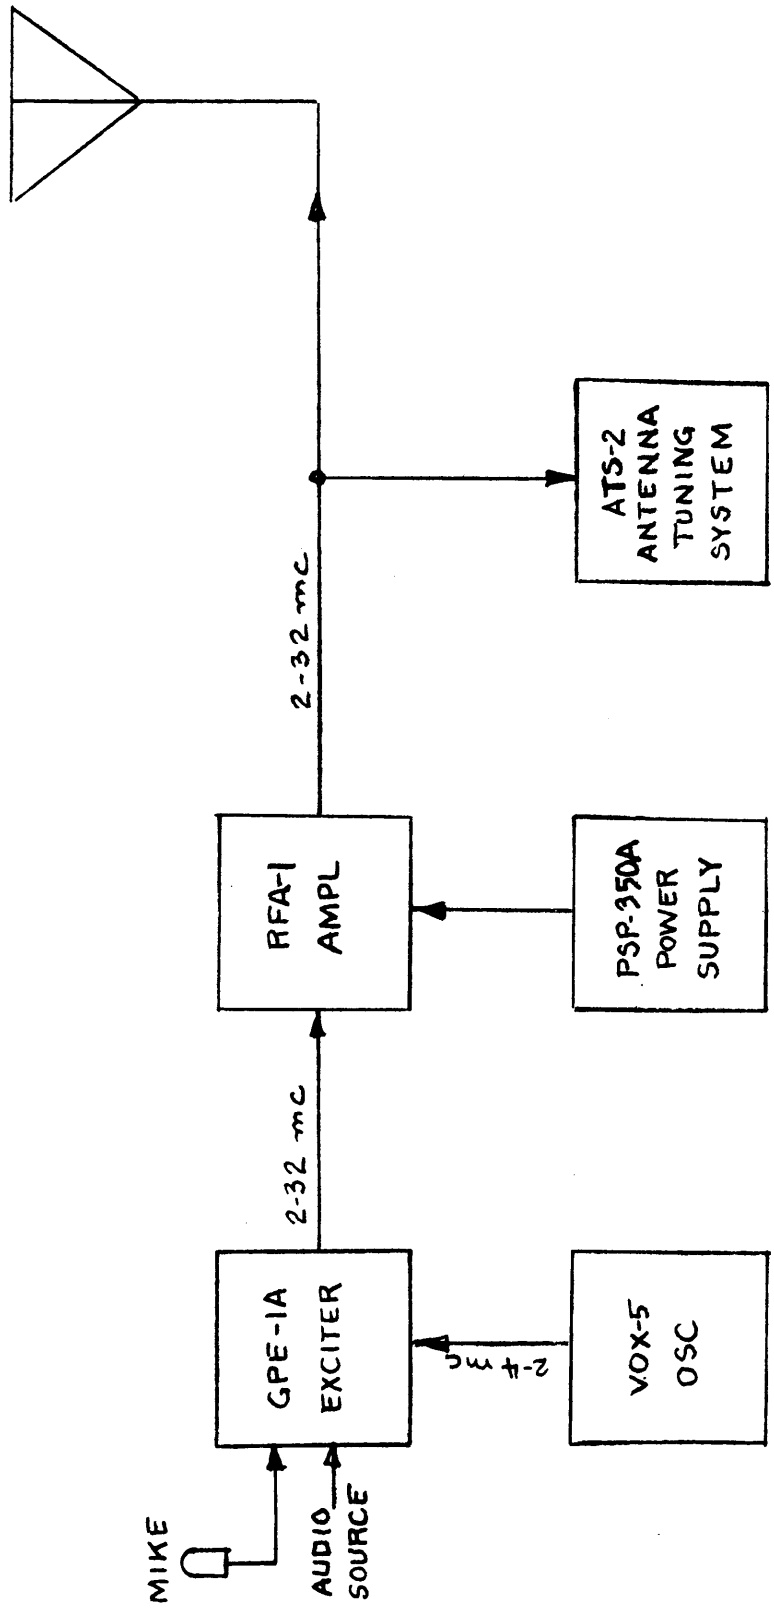

FIGURE 4-1. FUNCTIONAL BLOCK DIAGRAM, GPT-350D
Figure 4-1 is a functional block diagram of the GPT-350D transmitter. For a detailed functional block diagram and schematic diagram of each unit (ATS-2, PAL-350A, VOX-5 and GPE-1A), refer to the individual manual for the unit.
a. CARRIER GENERATION (Figure 4-1). - The r-f carrier, in the 2 to 32 mc range, is generated by the VOX-5 and GPE-1A units. The VOX-5 generates a highly stable 2-4 mc which is stepped up into the 2 to 32 mc range by frequency multipliers in the GPE-1A r-f stage. Since the VOX-5 frequency is continuously adjustable, this gives the continuously adjustable feature to the 2-32 mc carrier. The carrier is amplified up to the 350-watt level by PAL-350A. The ATS-2 contains tuning circuits to match the output of PAL-350A to a wide variety of antennas. It contains a VSWR indicator and tuning controls which enable a very fine degree of match.
b. CW TRANSMISSION (Figure 4-1). - In CW mode, the carrier is keyed at the GPE-1A Exciter r-f stage. Holding down the key grounds the r-f stage cathode circuits and enable the r-f amplifiers to conduct.
c. MCW TRANSMISSION (Figure 4-1). - In MCW mode, the modulated carrier is keyed at the GPE-1A Exciter r-f stage in the same manner as that for CW mode.
d. AM TRANSMISSION (Figure 4-1). - In AM mode, the carrier is modulated at the output of the GPE-1A stage by audio input from a 600-ohm source or mike.